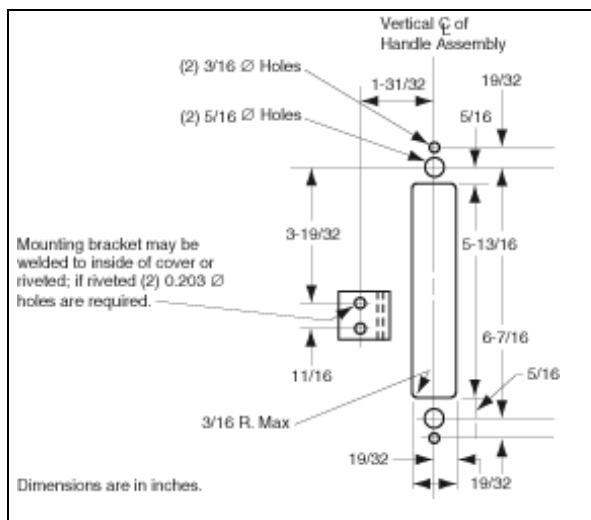

Figure 2 Drilling Dimensions
1. Weld or rivet the interlock blade mounting bracket to the enclosure door (Figure 2).
3. Drill four holes in the flange for mounting the device (Figure 2).
4. Cut an opening in the enclosure flange for the operating handle (Figure 2).